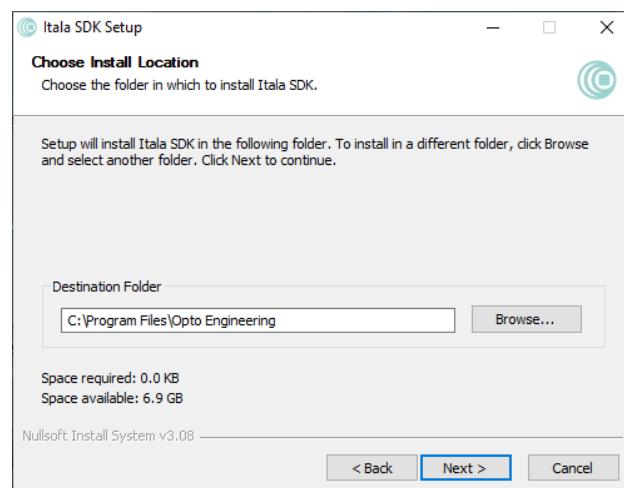

Figure 10: Itala SDK destination folder window.
4. Choose the destination folder (Fig.10).